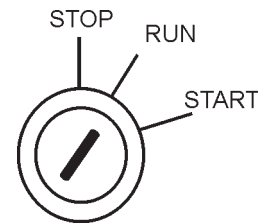
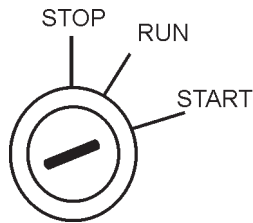

Figure 39. Ignition Switch Pre-Heat (Run Position)
Figure 41. Ignition Switch (Start Position)
1. In warm weather conditions, skip to step 3. In cold weather conditions, preheat the engine glow plugs by turning the ignition key (Figure 39) to the **RUN** position..
- Turn the ignition key to the start position (Figure 41). Once the engine starts, release the ignition key and allow it to return to the **RUN** position (Figure 39).